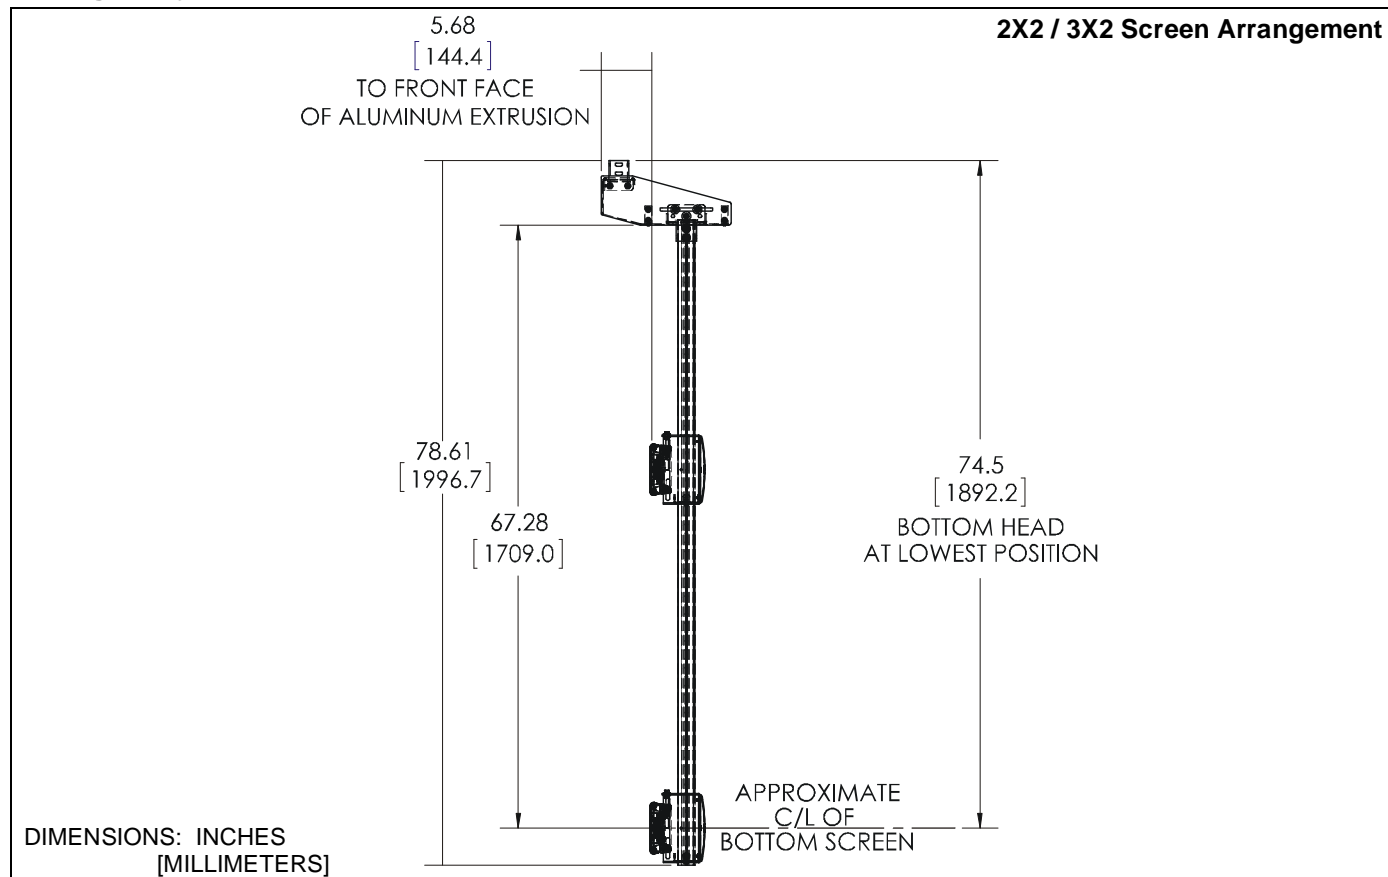
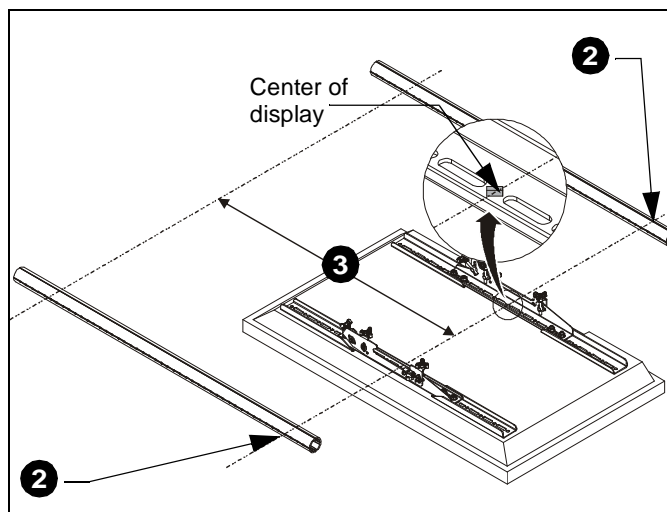

Figure 4
Figure 5
1. Lay columns (FF) on floor and carefully place display next to columns. (See Figure 4) and (See Figure 5)
2. Mark center of display (diamond on interface brackets) onto both columns. (See Figure 5)
3. Measure one screen height up on the columns from the first mark. (See Figure 4) and (See Figure 5)
4. Make a mark at upper spot on both columns. (See Figure 4)
5. Slide an array head (U) onto column up to the highest mark on the column.